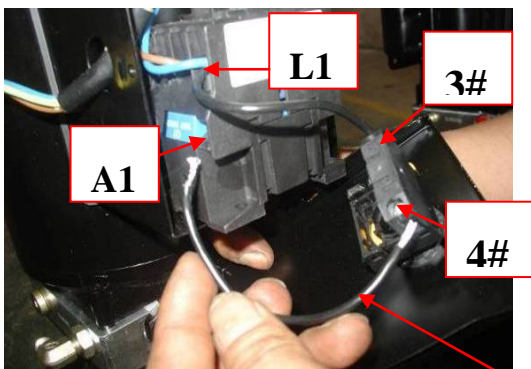
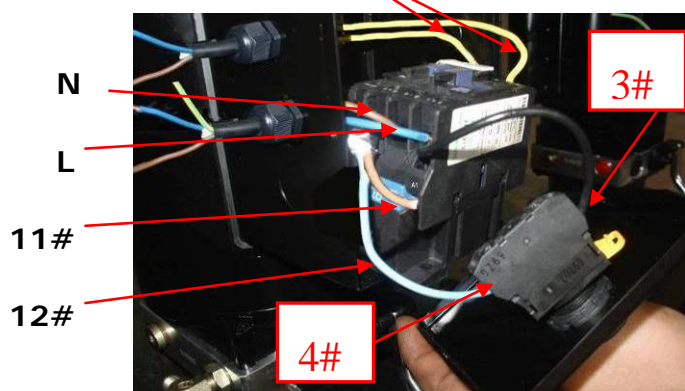

Fig. 28
Fig. 29
4. Connecting the Limit Switch: Removing the wire of connecting terminal **4#** on control button and terminal **A1** on AC contactor firstly (See Fig. 28), then connecting wire **12#** (brown color) of the limit switch with terminal **4#** of the control button and connecting wire **11#** (blue color) with terminal **A1** on AC contactor respectively. Connecting the earth wire (green and yellow color) of the limit switch with earth wire terminal on power unit. (See Fig. 29).